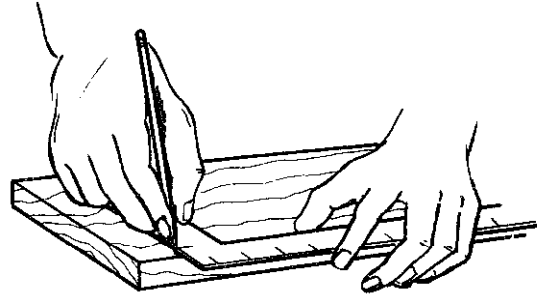

Fig. 4-22 Laying out a 90-degree angle
1. To make a 90-degree or square mark, place the body of the square along or against one edge of the board. Mark along the outside edge of the tongue on the face of the board. See figure 4-22.